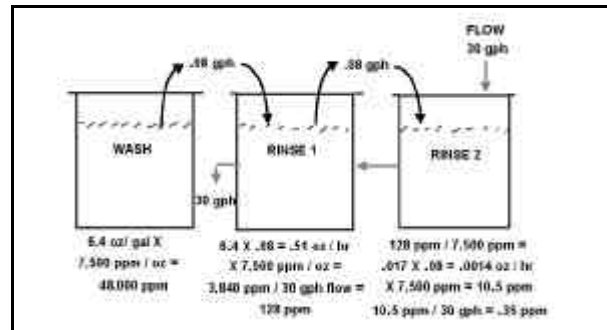

Figure 4: Counter-cascade dilution
One method for improving rinsing is the use of several rinse tanks in a series. The rinse formula applies to each successive tank. This allows a significant reduction in equilibrium concentration with a fixed overflow rate (F). This arrangement increases the capital costs of achieving a particular cleanliness level by requiring more rinse tanks, but it reduces operating costs by lowering the required overflow rate. It is important to note that the waterflow is in the opposite direction of the workflow. This is called "counter cascade" rinsing (*see Figure 4*). In applications with high dragout, a spray rinse may be used to remove the gross chemistry before the first immersion rinse, further increasing efficiency.